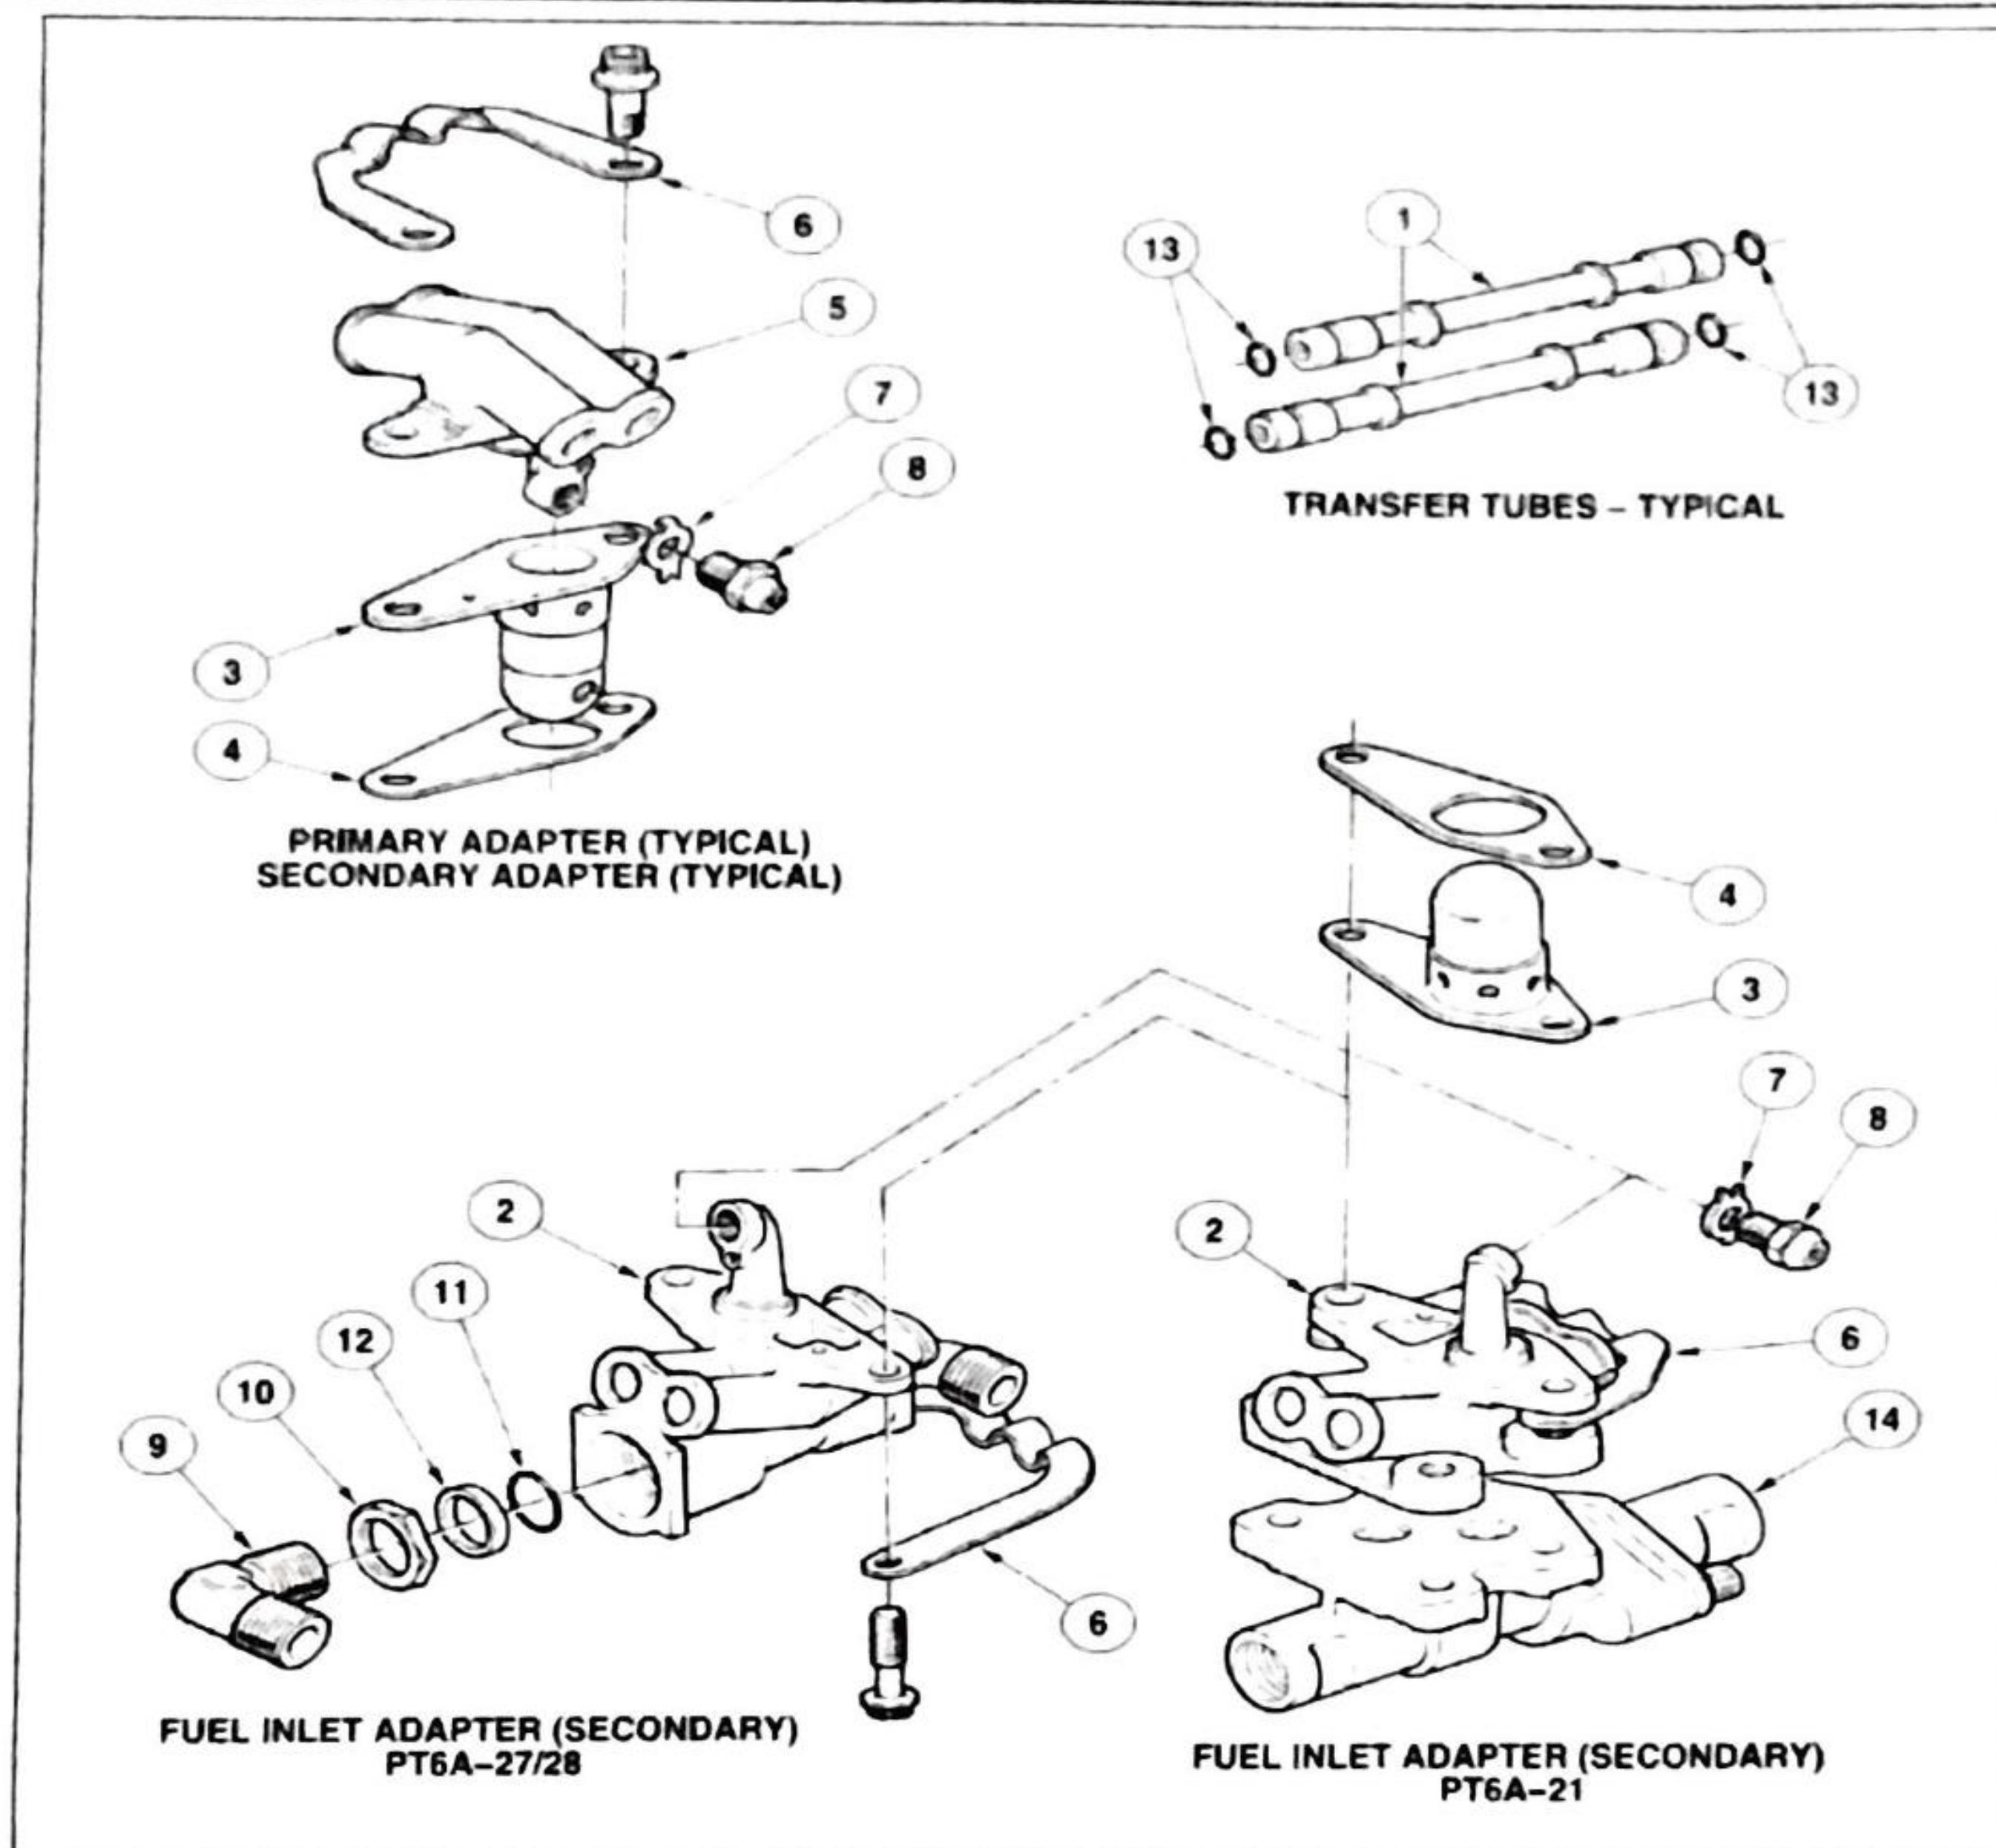

Figure 202 - Removal/ Installation of Fuel Manifold Adapter
2	Remove bolts securing transfer tube locking plate (6, Fig 202) and inlet manifold adapter (item 2) to gas generator case. Remove locking plate (item 6).
3	Install the fuel nozzle (Item 8, Fig 202) in the fuel manifold adapters (Item 2 and 5) with new keywasher (item 7) at each location
5	d) Lubricate and install preformed packings (13, Fig. 202) on all fuel transfer tubes (1) using a thin layer of engine oil (PWC03-001). Position fuel transfer tubes into ports on one side of manifold adapters (2 and 5). Fully insert fuel transfer tubes in their respective ports until the bottom of manifold adapter is reached.
Key to Figure 202